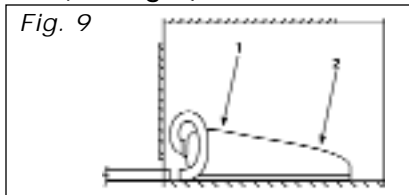

Fig. 9
5.6 Valves with foot switch (see Fig. 9)